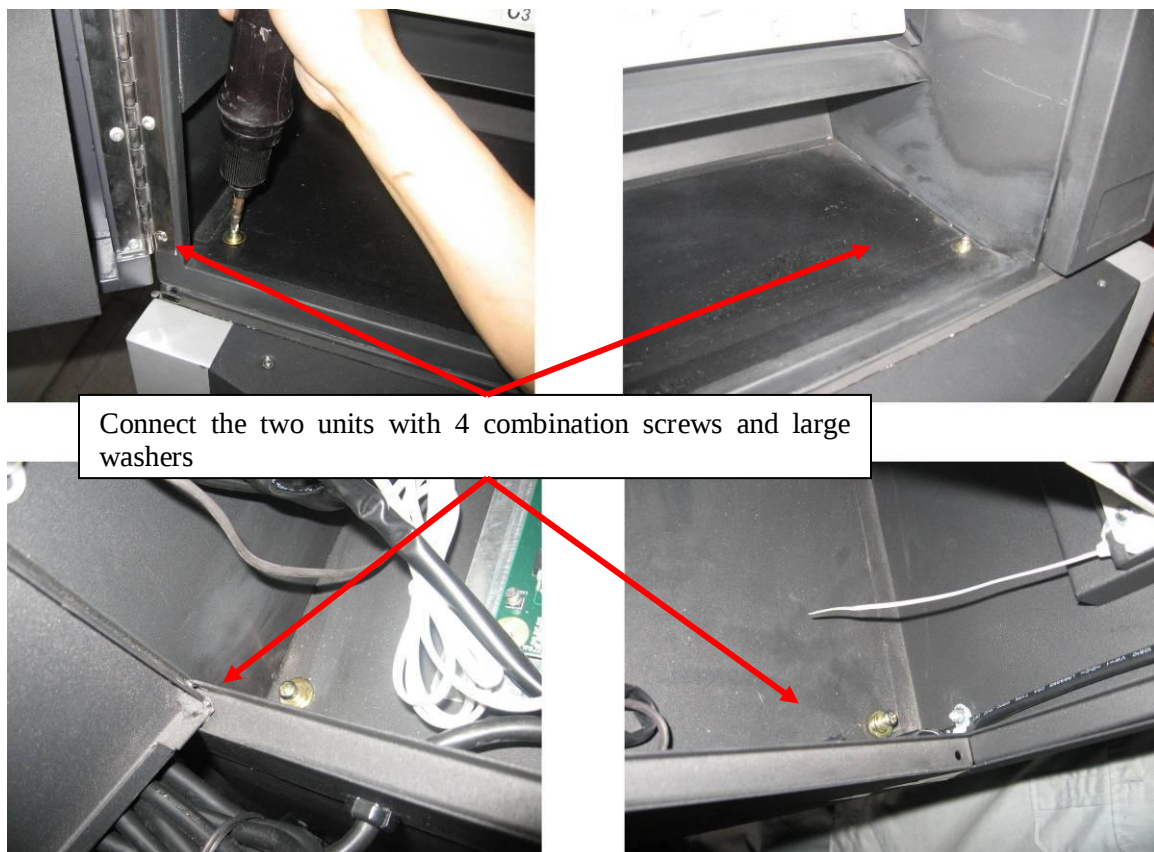

Figure 7
2. Open the front and rear doors on the SNACK UNIT, and connect both units together with the 4 combination screws and large washers provided (*figure 7*).